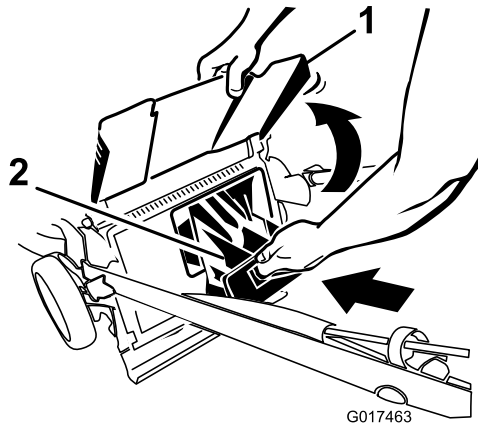
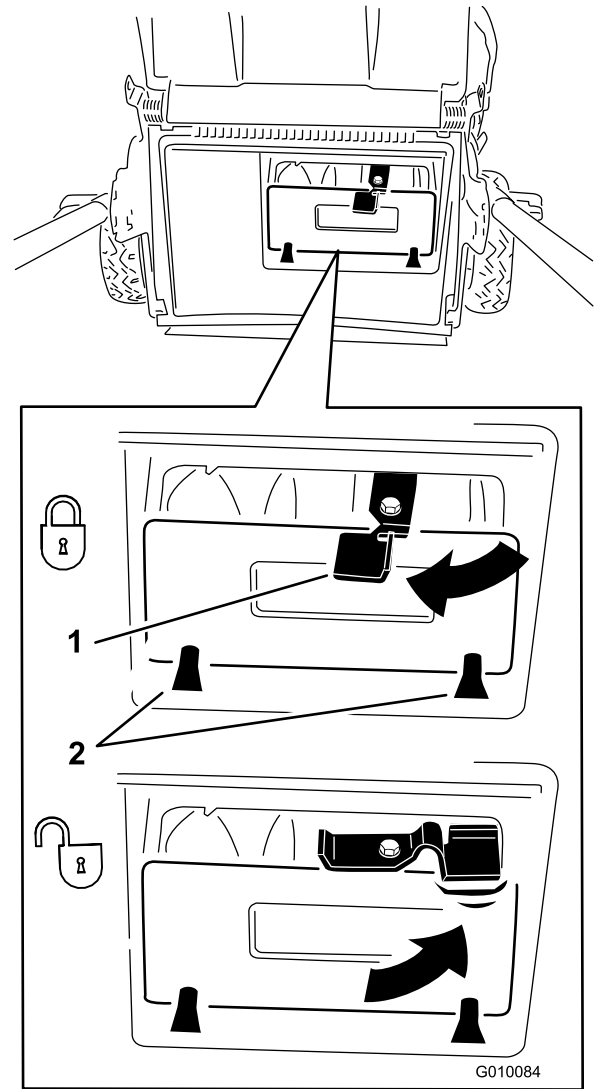

Figure 29
Figure 30
**Important:** Ensure that the rear discharge plug is locked in place. To lock the plug: Raise the discharge deflector (Figure 29), firmly push the plug in until it snaps into place behind the tabs, and rotate the lever on the plug to the left (Figure 30).